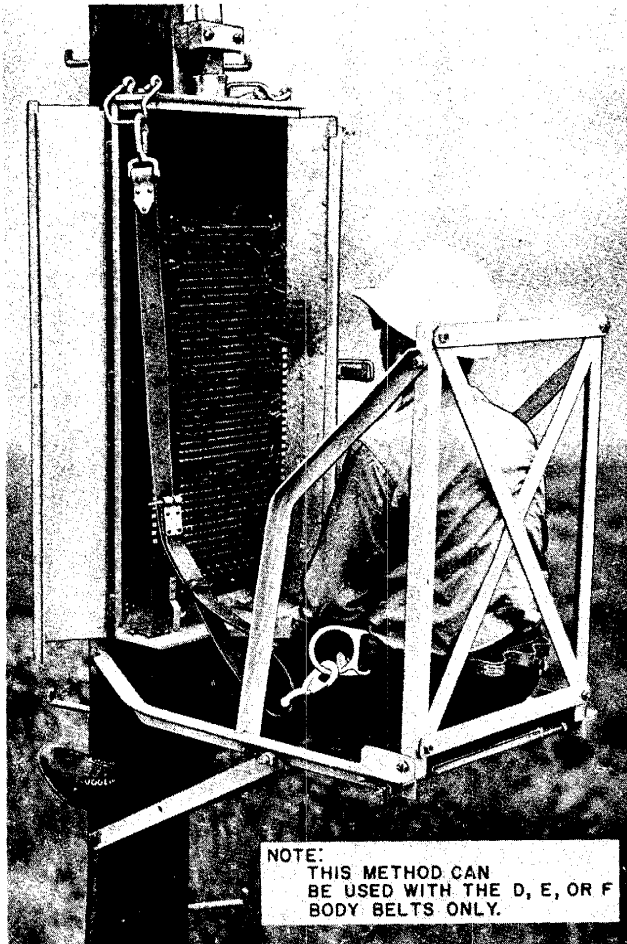

Fig. 12—Method of Using D, E, or F Body Belt With Safety Strap on B-Type Cross-Connecting Terminal
**4.06** The D, E, or F Body Belt should be used at B-type cross-connecting terminals as shown in Fig. 12.